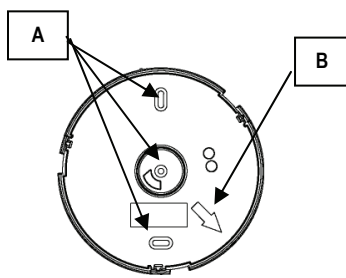

Fig. 2
- 2) Secure the detector base to the ceiling using presetting "A" (fig. 2), and position it by directing arrow "B" (fig. 2) towards the central unit.